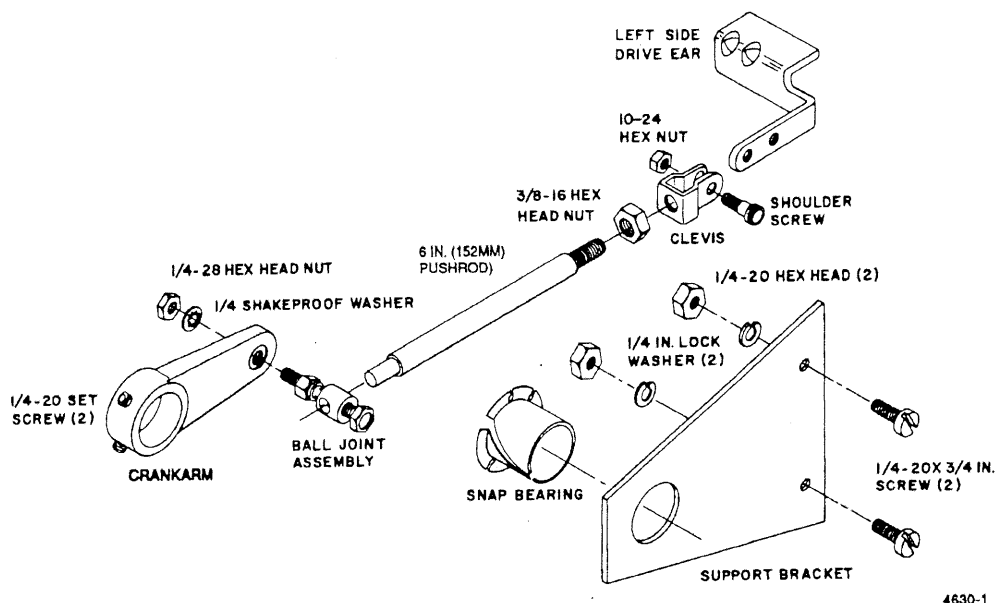
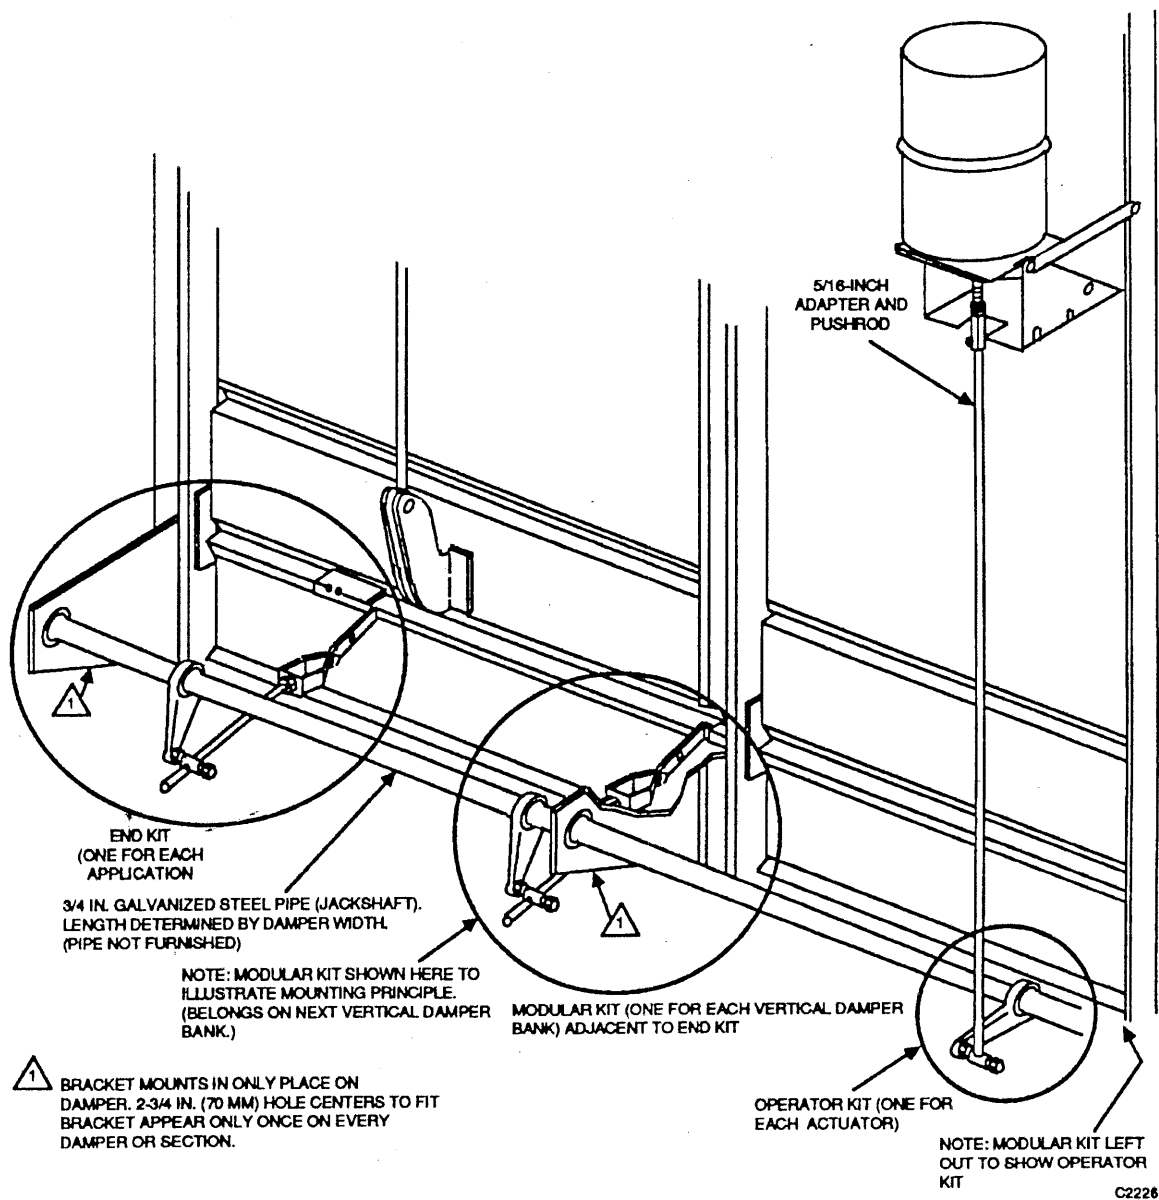

Fig. 22. End Kit Assembly.
Fig. 25. Normally Closed Damper Jackshaft Installation.
Damper jackshaft installation uses combinations of three separate kits for different installations. These are illustrated in Figures 22 through 24. Figures 25 and 26 illustrate typical installations for normally closed or normally open dampers. Review these figures carefully before installing.
- End Kit: 15753693-001 (Fig. 22 and Table 1), one for each installation
NOTE: Mounting holes in brackets will match holes in the frame at only one location. See Figures 25 and 26.